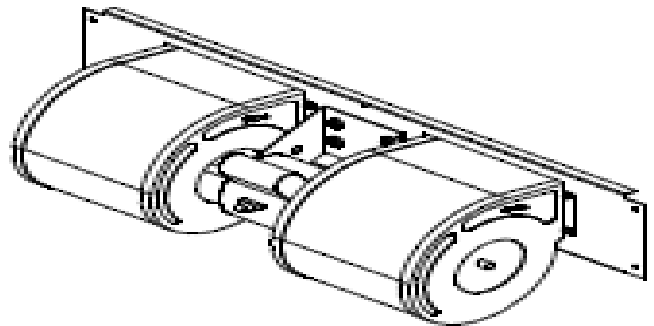

Figure 18: Blower Assembly Removal
- 3 Remove the four (4) screws that secure the motor guard to the control box.
- 6 Remove the control box cover by removing the two (2) screws that are securing the cover to the Air Handler unit.
- 7 Remove the two screws on the blower mount plate located on the right side, the left side, the screw on the top center and the screw in the control box. Refer to Figure 18 for screw locations.
- 19 Replace the two screws on the blower mount plate located on the right side, the left side, the screw on the top center and the screw in the control box. Refer to Figure 18 for screw locations.